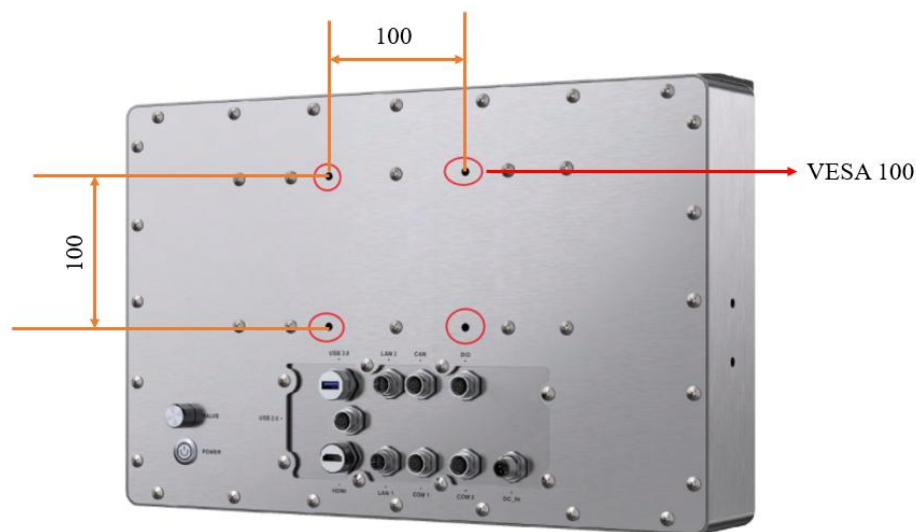

Figure 3-8: Arm Mounting Retention Screw Holes
Step 3: Align the retention screw holes on the mounting arm interface with those in the panel PC (**Figure 3-8**).